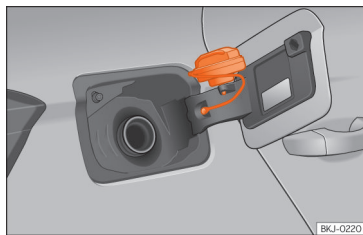

Fig. 155 Fuel tank flap with tank cap attached.
- Place it in the space on the hinge of the open flap >>> **Fig. 155**.